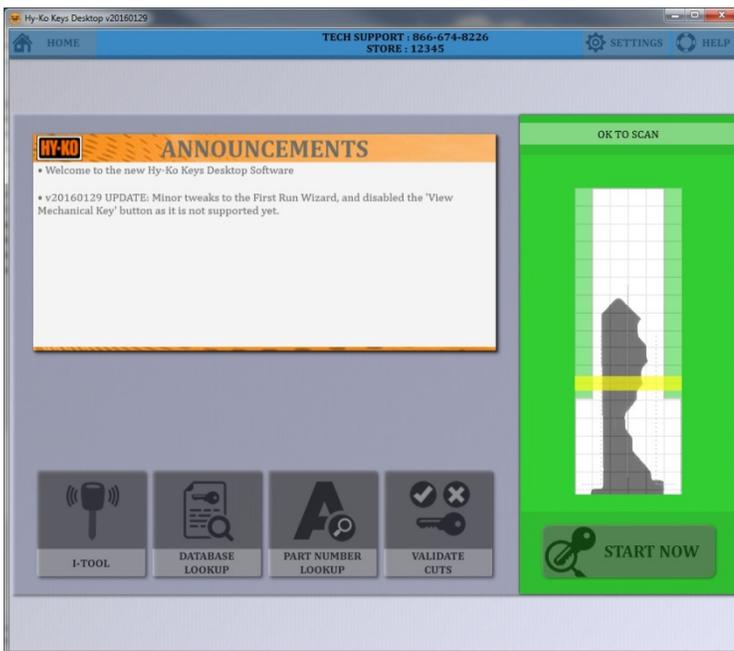

fig. 33
- The Vision Box will begin the scanning process of the key. (see fig. 33). Do not touch the key at this time.